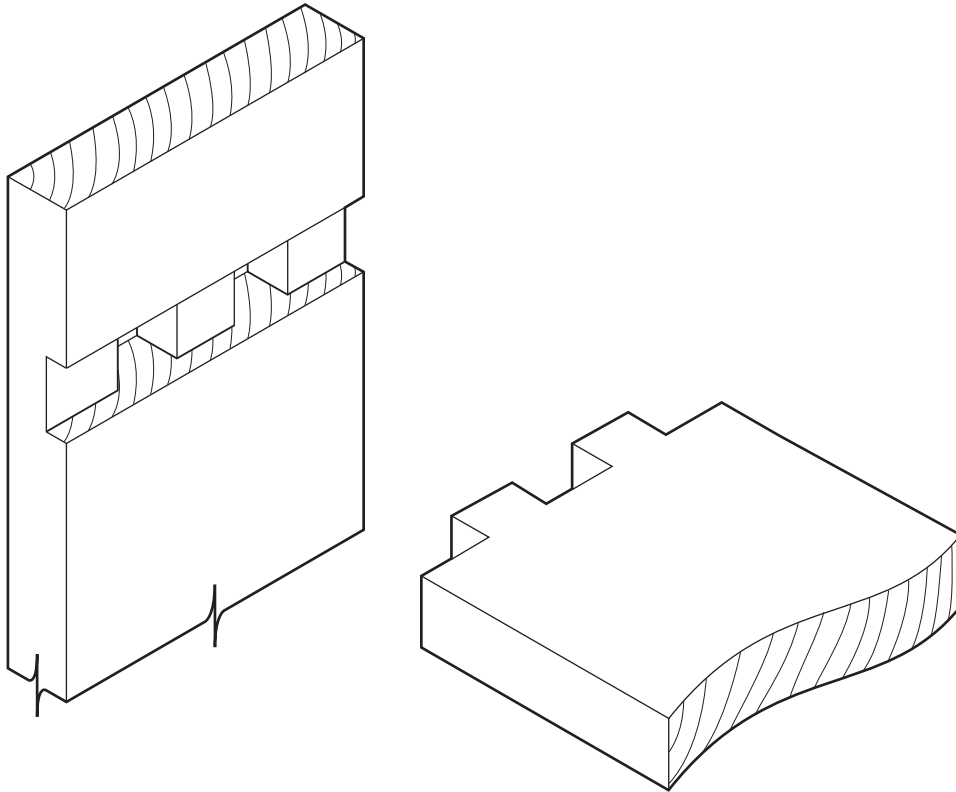

Fig. 7
- 9 Fig. 7 shows a joint used in construction.